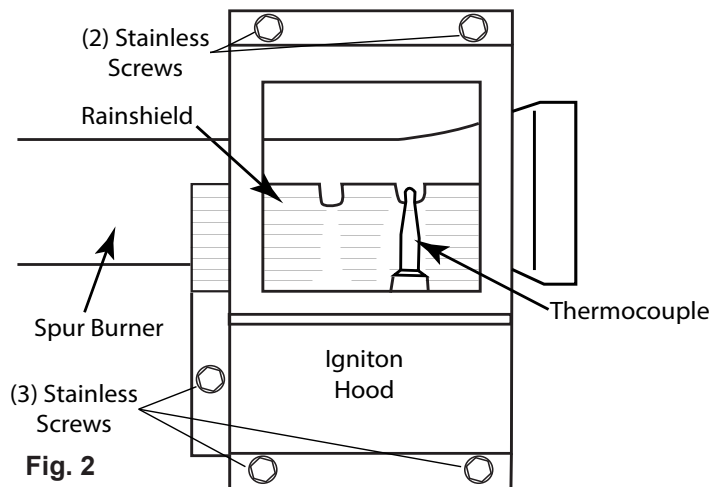

Fig. 2
Step #2: Remove the five (5) stainless steel thread cutting screws from the ignition hood exposing the rainshield and thermocouple (See Fig. 2).